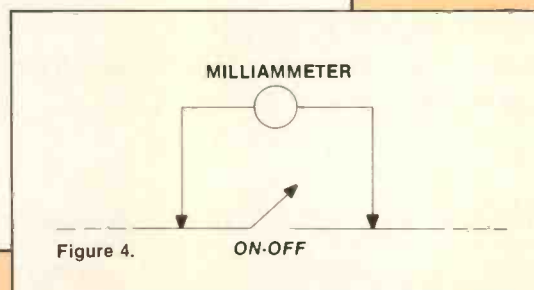

Figure 4.
7. A milliammeter is connected across the on-off switch of a small AM radio. (See Figure 4.) This radio has an RF section. It also has two IF sections. The audio power section has push-pull amplifiers. In addition to checking the on-off